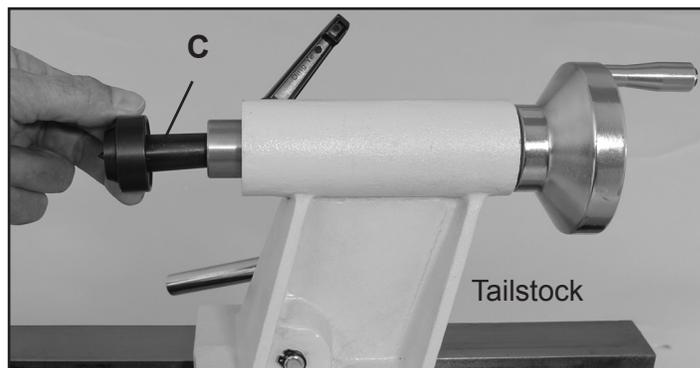

FIG. 7
Insert the live center (C) into the tailstock spindle. This center also has a No. 2 Morse Taper shank. FIG. 7.